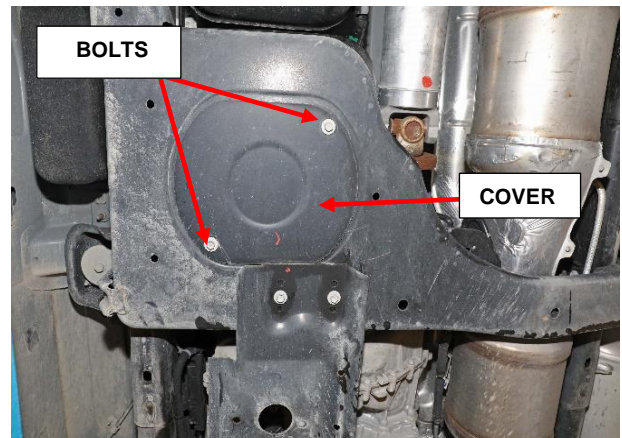

Figure 2 – DEF Pump Cover
5. Remove the bolts and the DEF pump cover (Figure 2).
18. Install the DEF pump cover and tighten the bolts to 24N·m (18ft. lbs.) (Figure 2).